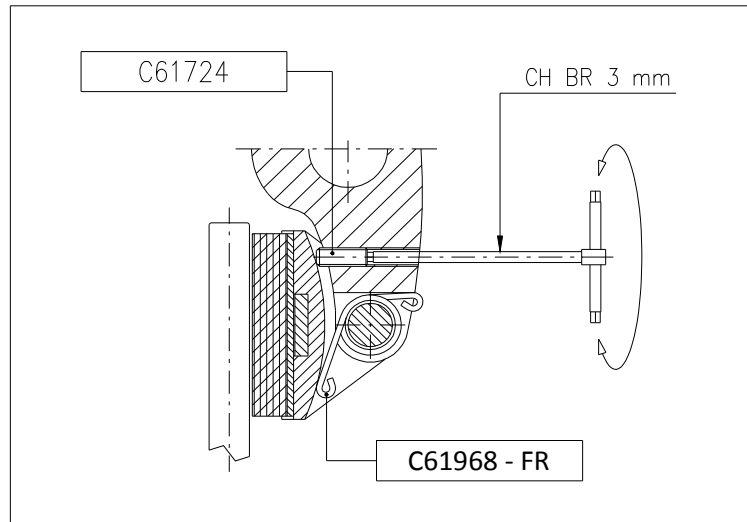

Figure 2
- Adjust the brake shoes using the grub screw C61724 rotating it in the appropriate direction with a n. 3 Allen key; the friction surface of the brake linings must be parallel to the surface of the disc (Figure 2).
6. Reassemble the shoe following the sequence in point 2 in reverse order, positioning the shoe alignment spring C61968-FR as indicated in Figure 2.
3. Remove the shoe alignment spring C61968-FR from its seat and replace it with a new one, positioning it as shown in Figure 2.